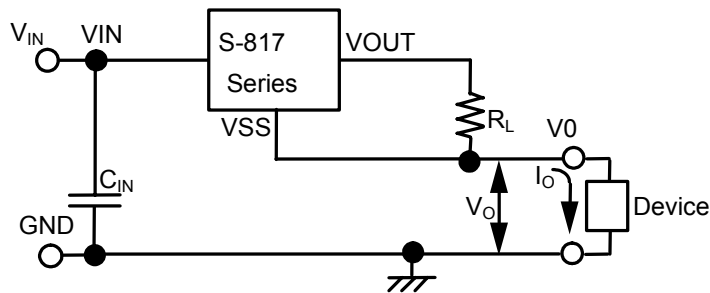
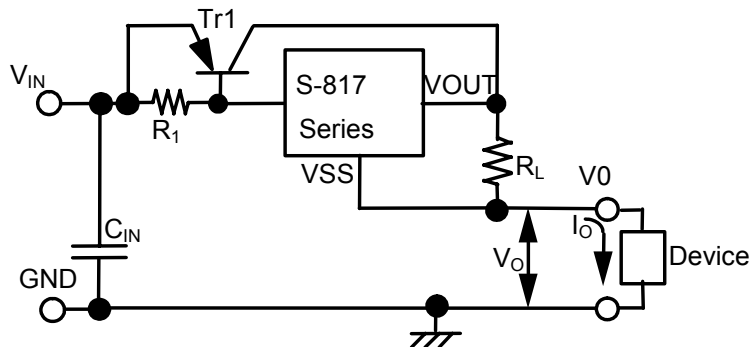

Figure 15
Figure 16
The S-817 Series can be configured as a constant current circuit. Refer to **Figure 15 and 16**. Constant amperage (I_O) is calculated using the following equation ($V_{OUT(E)}$: Effective output voltage):
Please note that it is impossible to set constant amperage I_O in case of circuit (1) of **Figure 15** to the value exceeding the drive ability of the S-817. However, circuit (2) of **Figure 16** is an example to set constant amperage to the value exceeding the drive ability of the S-817. Circuit (2) incorporates a current boosting circuit. The maximum input voltage of the constant current circuit is the value obtained by adding 10 V to voltage of the device (V_O). It is not recommended to attach a capacitor between the S-817 power source V_{IN} and V_{SS} pin or between output V_{OUT} and V_{SS} pin because rush current flows at powering on. An example of input voltage between V_{IN} and V_O in circuit (2) vs. I_O current characteristics